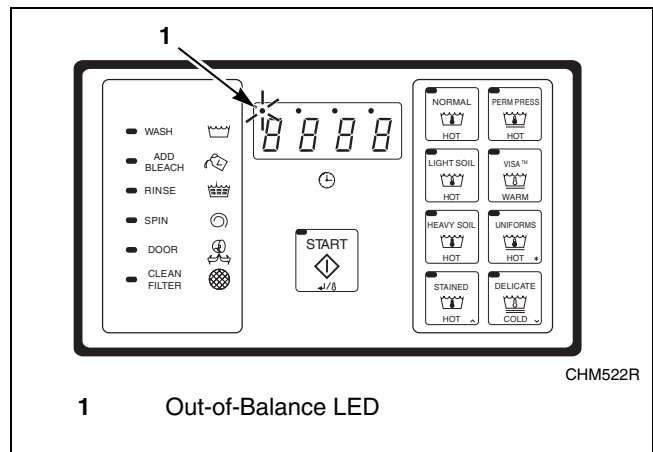

Figure 2
**NOTE:** If the wash load becomes out of balance, the machine will attempt to balance the load. After three failed attempts the display will light the leftmost digit and a lower spin will be used to complete the cycle. Refer to *Figure 2*.